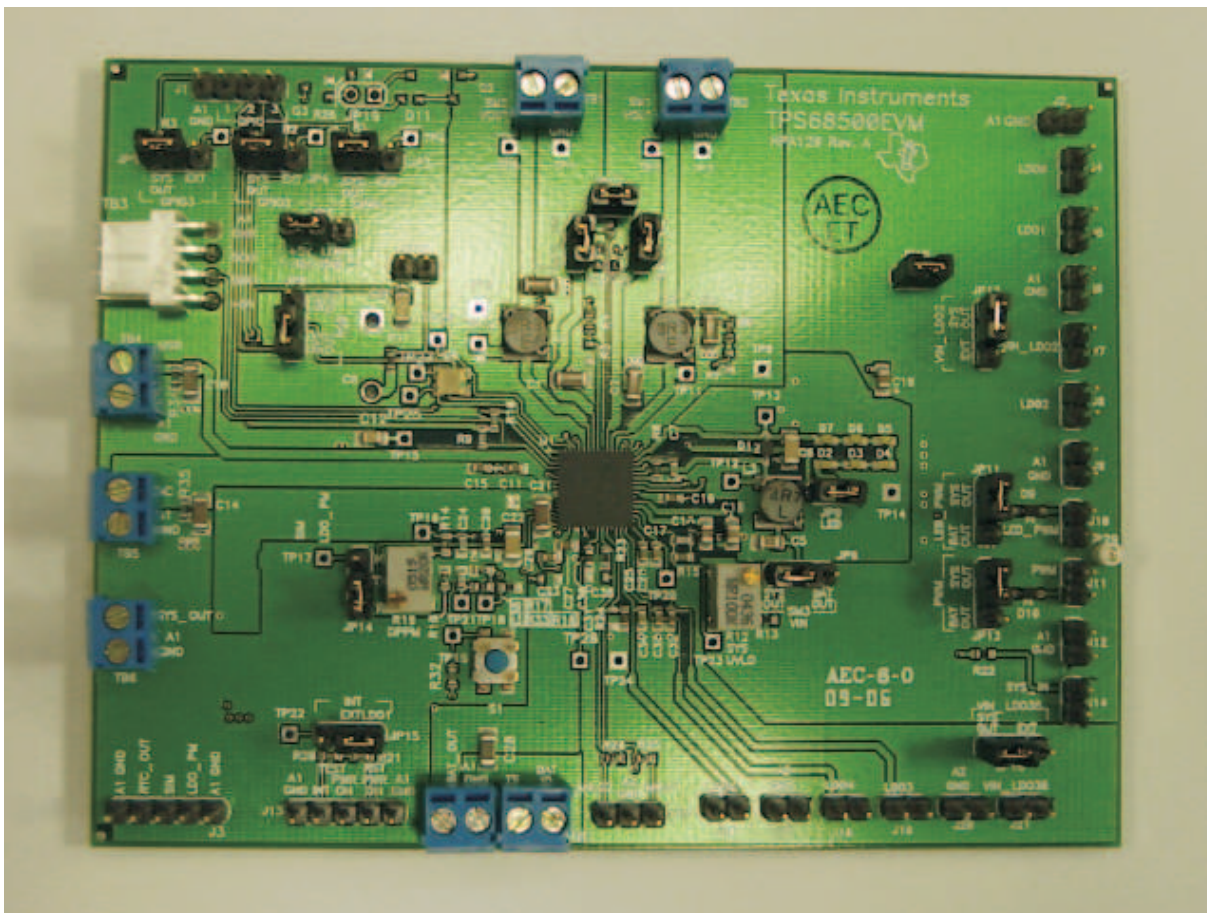

Figure 1. TPS6810EVM Assembly (Similar to Other Versions)
1. Verify that the jumpers are in the correct location. JP5/4/3/8/15/12/11/13/6/16 are to be set to SYS-OUT, JP7 to +5V, JP14 to RES, JP15 to LDO1, and JP12/17/18/9; apply jumper across the two pins. See Figure 1.